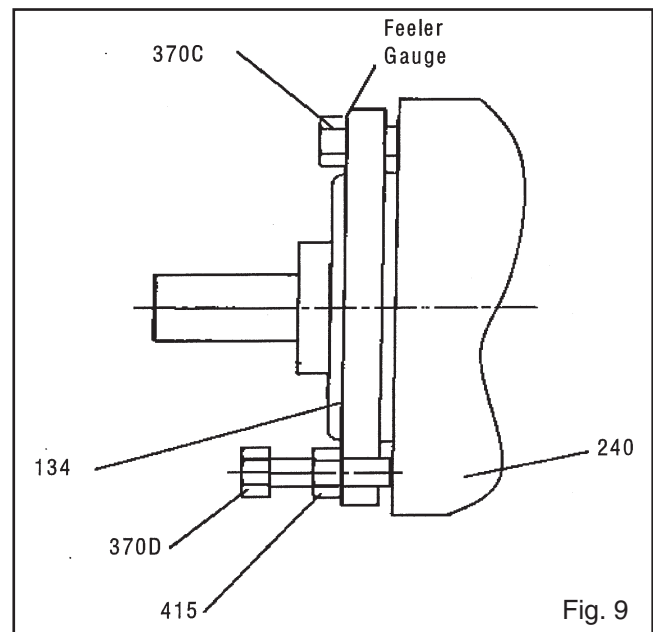

Fig. 9
3. Loosen jam nuts (415) on jack bolts (370D). Back off jack bolts several turns.
4. Turn all locking bolts (370C) in several turns until impeller contacts the suction cover (182). Turn shaft to insure contact has been made.
5. Loosen locking bolts (370C) until a 0.015" feeler gauge can be inserted between the underside of the bolt head and the bearing shell (134) See Fig. 9.
6. Tighten jack bolts (370D) evenly until the bearing shell (134) is tight against the locking bolts. Make sure all bolts are tight. Tighten jam nuts (415).
- 18a. Loosen locking bolts (370C) and jam nuts (415). Tighten jacking bolts (370D) until impeller is pushed off the shaft (see Fig. 9 page 23), or